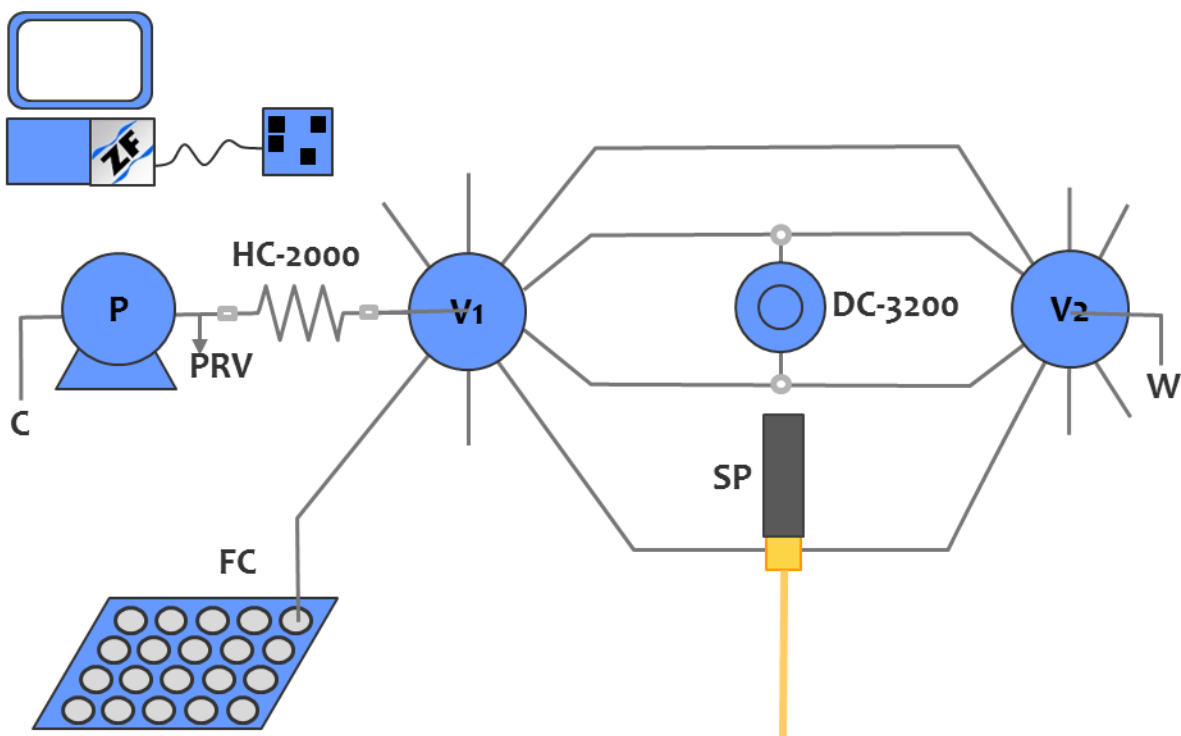

Figure 3: Fluidics manifold of the FloPro-Sampler
The fluidics manifold for the FloPro-Sampler is given in Figure 3. The pump (P) moves fluids that are selected and controlled by the two multi-position selection valves (V1 and V2). The pump is protected from being overpressurized by the pressure relief valve (PRV). Primary dilution occurs between the Sample Probe (SP) and the 18-port selection valve (V1). Secondary dilution is carried out in the dilution coil (DC-3200). The diluted sample is deposited in the fraction collector FC. The carrier fluid (C) is usually distilled water or a suitable wash solution for flushing out lines between samples. Waste solutions are pumped to the waste reservoir (W). Several diluent solutions are plumbed to V1. One of the V1 ports is open to air to allow air zones to be drawn into the tubing manifold. The system is controlled by FloZF device control and data acquisition software installed on a laptop or PC equipped with the Windows OS.
The dilution coil (see Figure 8) is a long length of 0.062" ID tubing coiled and connected to two Tee pieces which are coupled to ports on the selection valve as shown in the fluidics manifold (see Figure 3). The sample is bracketed between two diluent zones and this zone stack is preceded and followed with two air bubbles. As this zone stack moves down the tubing, Taylor flow conditions prevail, and the diluent and samples are thoroughly mixed resulting in a diluted sample.